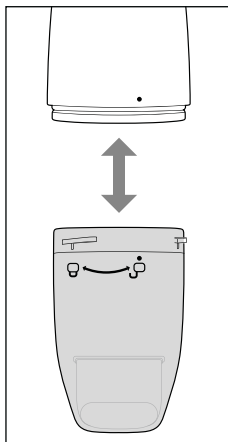

Fig. 7
2. Remove the dirt container **3** from the appliance so that it points downwards (see Fig. 7).